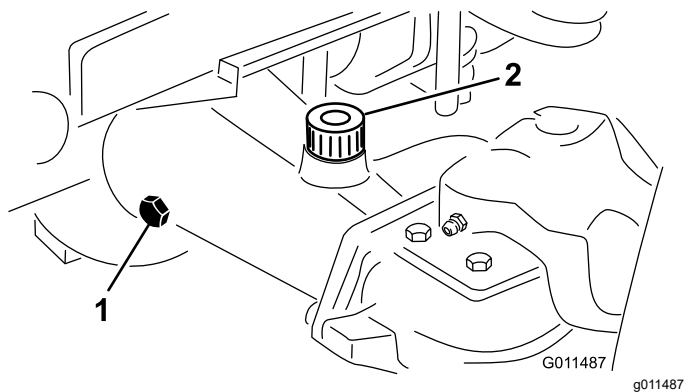

Figure 68
2. Remove a check plug from 1 end of the axle and ensure that the lubricant is up to the bottom of the hole (Figure 68).